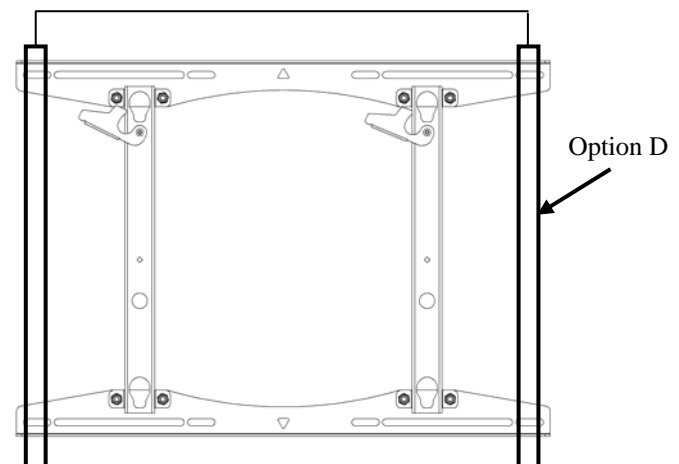

Figure 7. Mounting Holes – 24" Apart On Center (Option D)
- **Option D.** Install four 5/16" x 2 1/2" lag bolts and four 5/16" washers (two top and two bottom) into the mounting holes, centering the PST on dual wood studs 24" apart on center as shown in Figure 7.